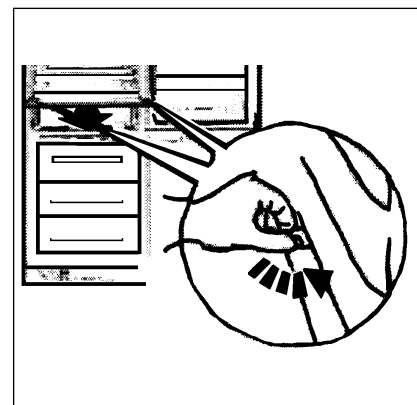

Fig. 13
- In order to remove the shelf over the vegetable drawer (some models only), first of all pull out the security flanges as shows in the draw (see fig. 13). Once it has been put back, return the flanges to the original position.